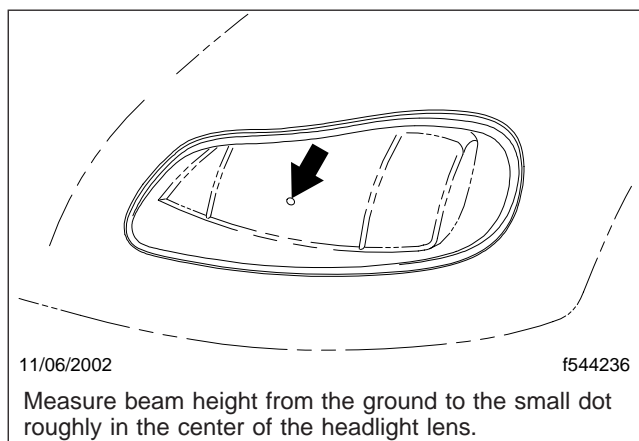
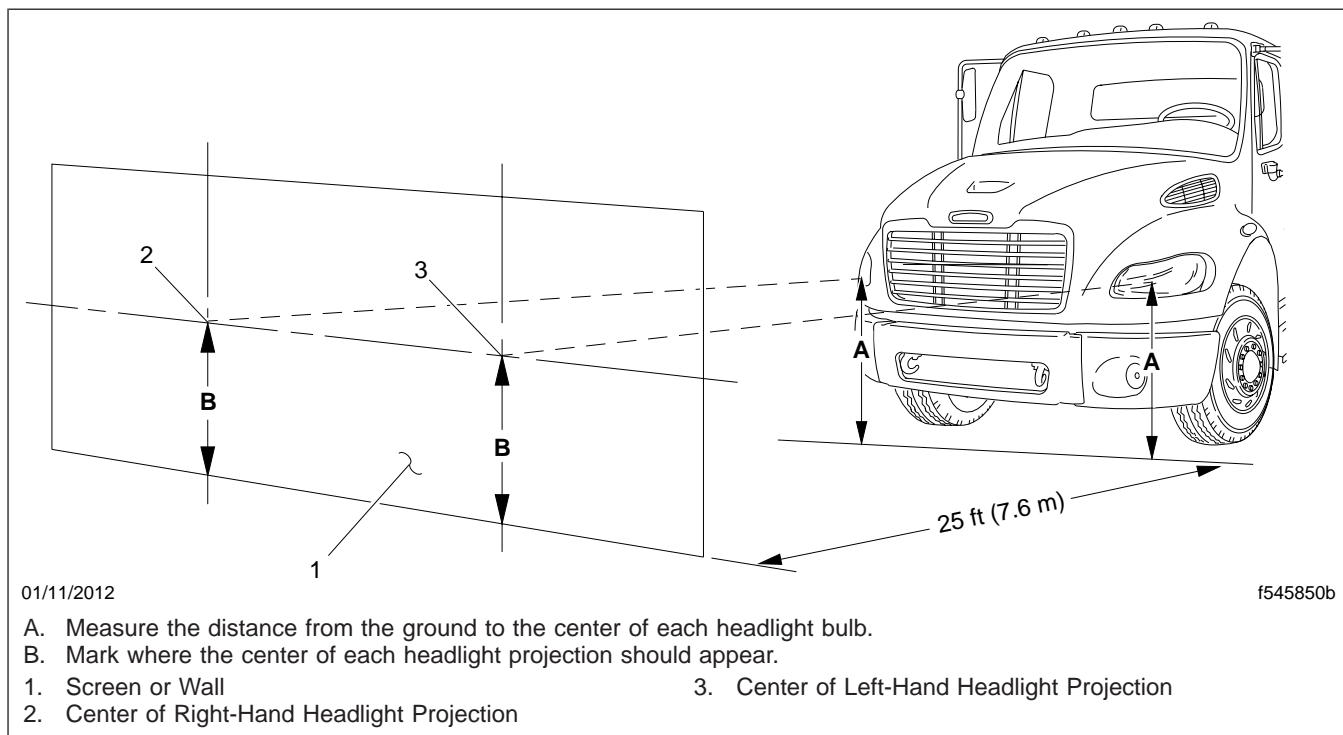

Fig. 14.1, Headlight Beam Height Adjusting Dot
Fig. 14.2, Headlight Aiming Screen/Wall
2. Each headlight has a height adjusting dot. See Fig. 14.1. Measure the distance from the ground to the height adjusting dot on each headlight. Note those distances. See Fig. 14.2, Ref. A.
3. Mark the vertical distances found in step 2 on the screen or wall, directly in front of the headlights. These marks represent the desired locations of each headlight bulb center in the following steps. See Fig. 14.2, Items 2 and 3.